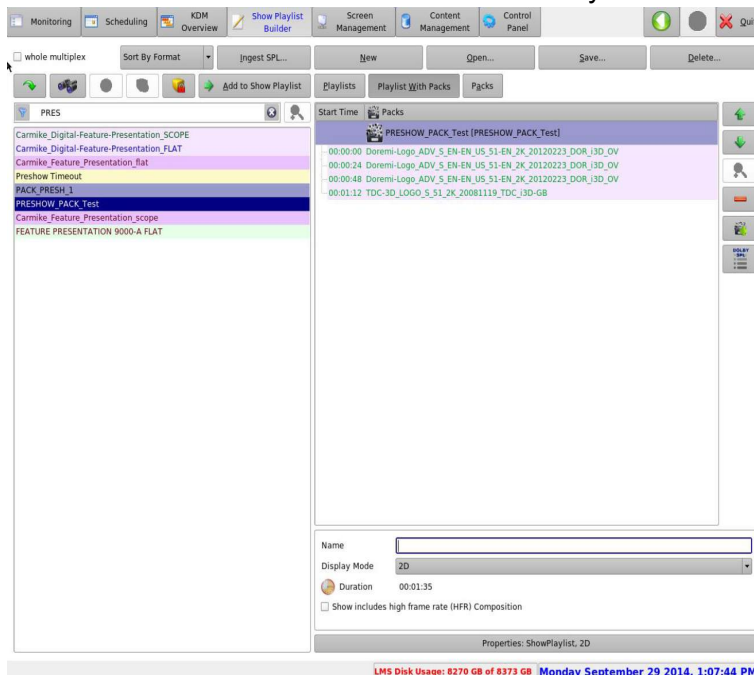

Figure 7: SPL Packs Added
- Once saved, the SPL pack will show, in purple, in the left panel, under Playlist Packs. The playlist packs can then be added to another SPL like any other CPL or cue item (Figure 7).